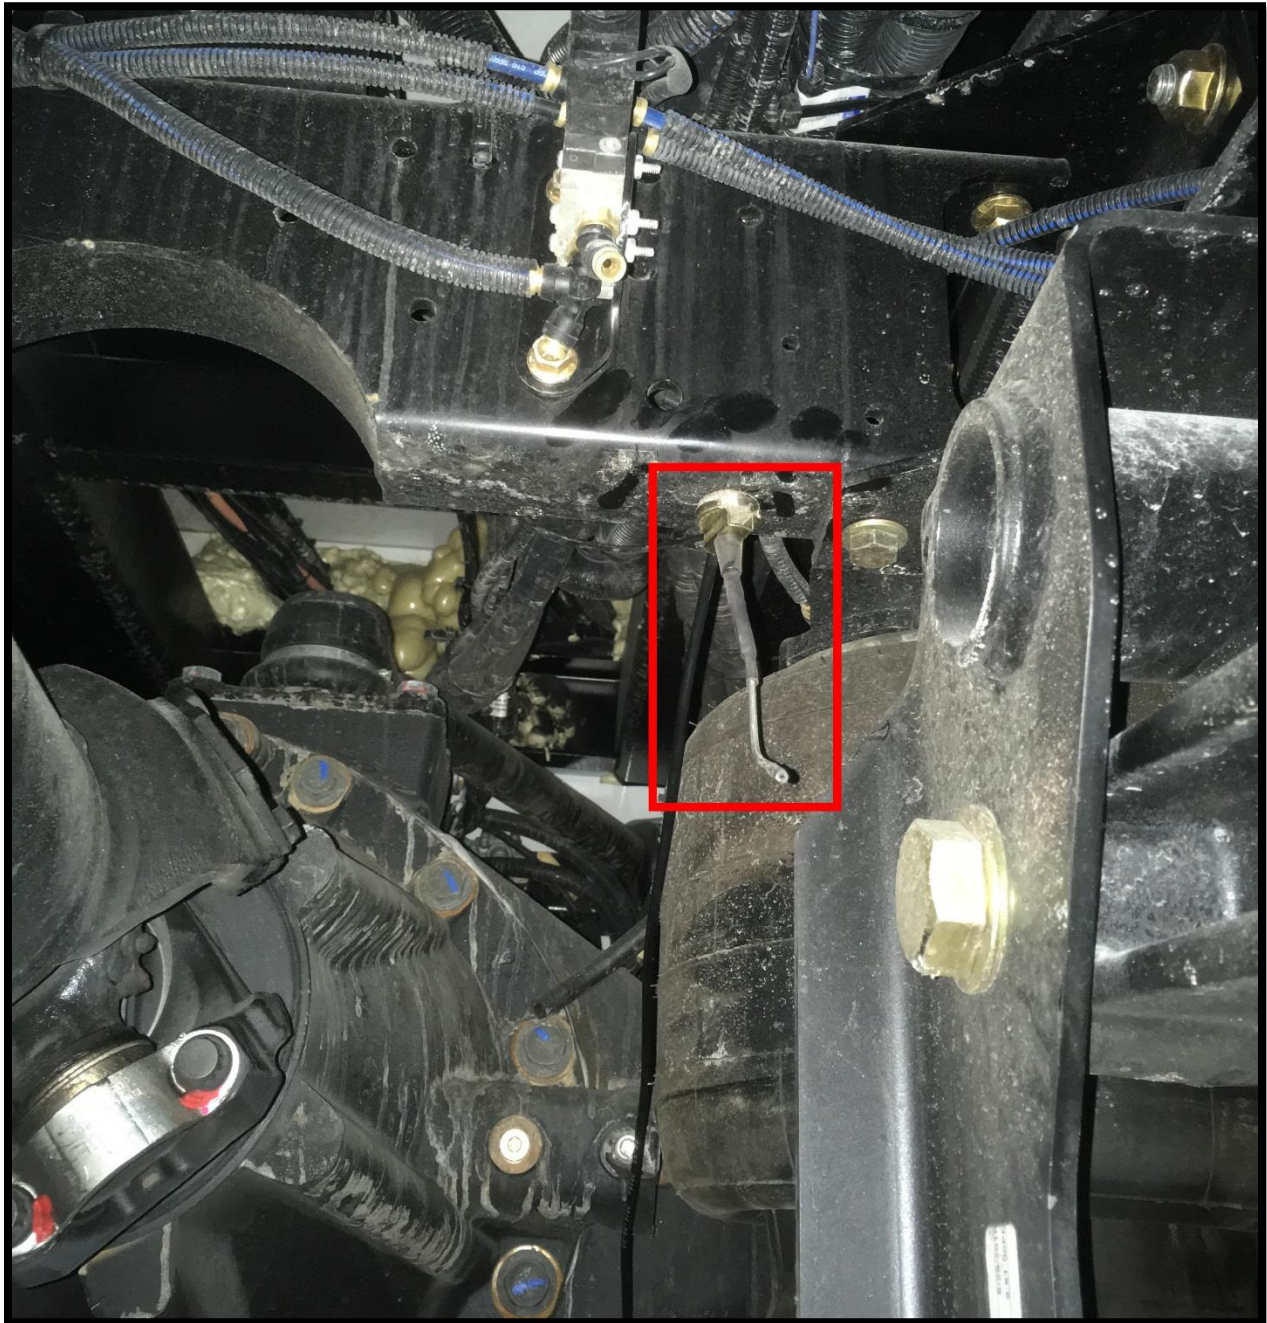

FIG. 4-1
9. Locate TPMS antenna on bottom of rear cross member that holds tag axle integral valve assembly; move it to bottom of crossmember positioned above u-joint, driver side with antenna facing downward. Refer to FIG. 4-1.